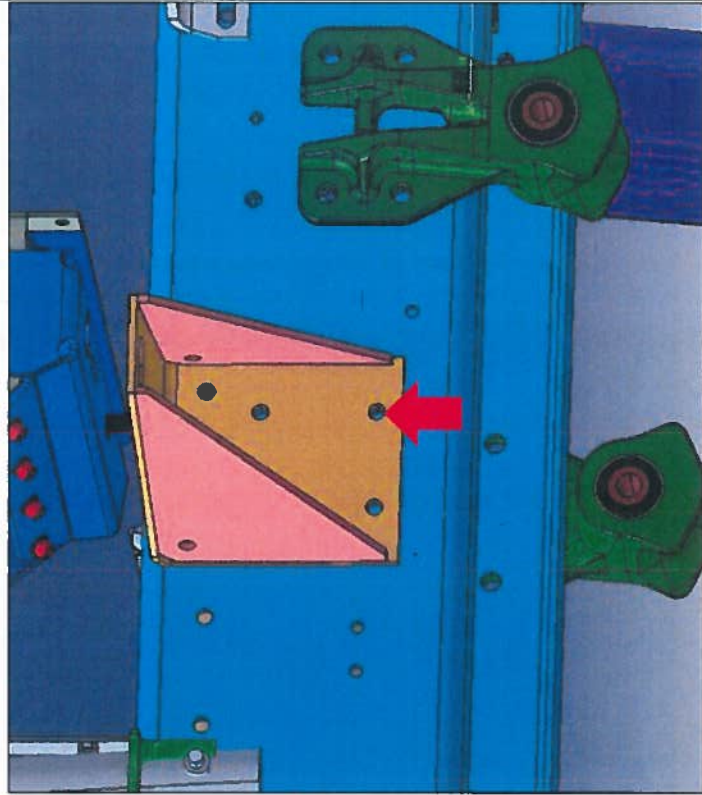

Figure 2
1. Locate and remove lower rearward Huck fastener from driver's side outrigger bracket. Indicated with small red arrow (Figure 2).